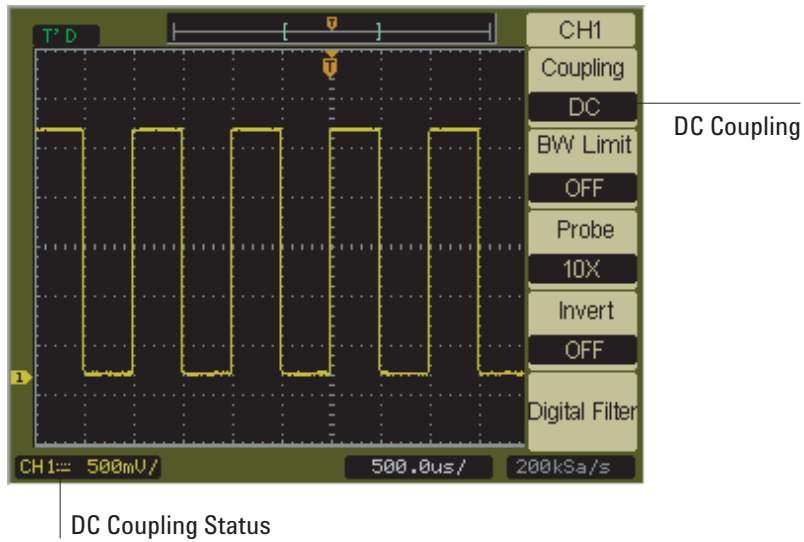

Figure 16 DC Coupling Control
- DC – passes both DC and AC components of the input waveform to the oscilloscope. See Figure 16.